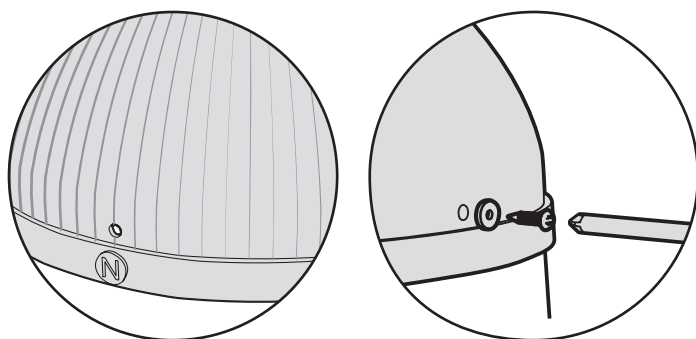

Figure 25 - Mounting the Skylight Dome
Next, slide the skylight dome onto the flashing assembly. Align the dome so that the engraved label "N" on the dome's collar faces toward the North. Secure the dome to the roof flashing using the (4) 3/4" phillips head screws and (4) neoprene bonded washers included with your kit (see Figure 25).